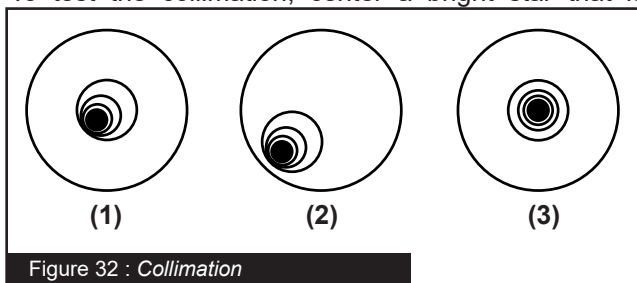

Figure 32 : Collimation
- b. While looking at the defocused star image, notice which direction the darker shadow is offset in the ring of light or notice which part of the ring is the thinnest (**Fig. 32, #1**). Place your index finger in front of the telescope so that it touches one of the collimation set screws. You will see the shadow of your finger in the ring of light. Move your finger around the edge of the black secondary mirror support until you see the shadow of the finger crossing the thinnest part of the ring of light. At this point, look at the front of the telescope where your finger is aiming. It will either be pointing directly at a set screw, or it will be between two set screws aiming at the set screw on the far side of the black secondary mirror support. This is the set screw that you will adjust.
- c. Using the AutoStar II’s Arrow keys at the slowest slew speed, move the defocused image to the edge of the eyepiece field of view (**Page 24, Fig. 32, #2**), in the same direction as the darker shadow is offset in the ring of light.
- f. When you bring the image to center (**Page 24, Fig. 32, #3**), carefully examine the evenness of the ring of light (concentricity). If you find that the dark center is still off in the same direction, continue to make the adjustment in the original turning direction. If it is now off in the opposite direction, you have turned too far and you need to turn in the opposite direction. Always double check the image in the center of the field of the eyepiece.